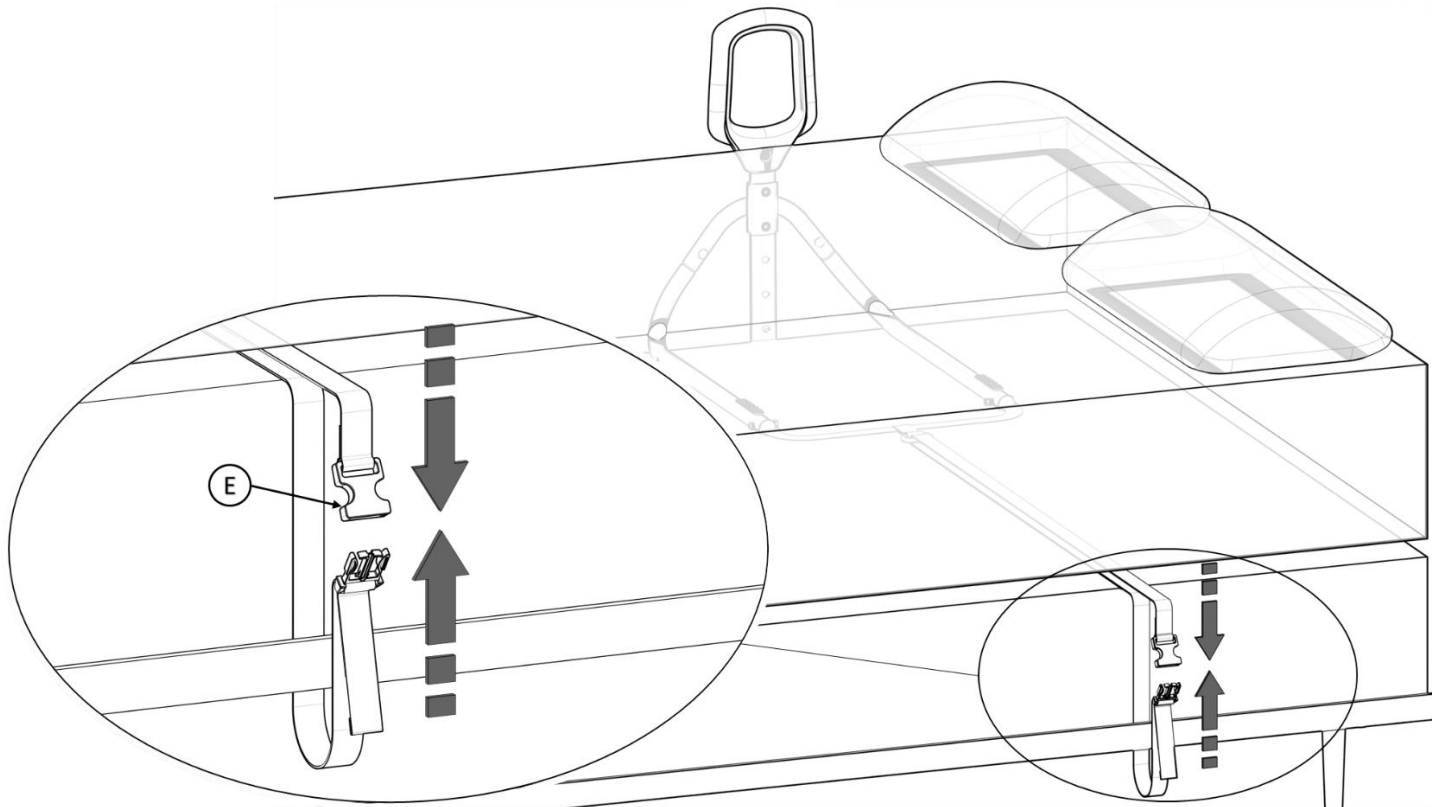

FIGURE 4
4. Place Bed Handle under mattress and loop **SAFETY STRAP (E)** around bed frame, re-buckle and tighten **SAFETY STRAP** to secure Bedrail product against side of the mattress as shown in **FIGURE 4**.